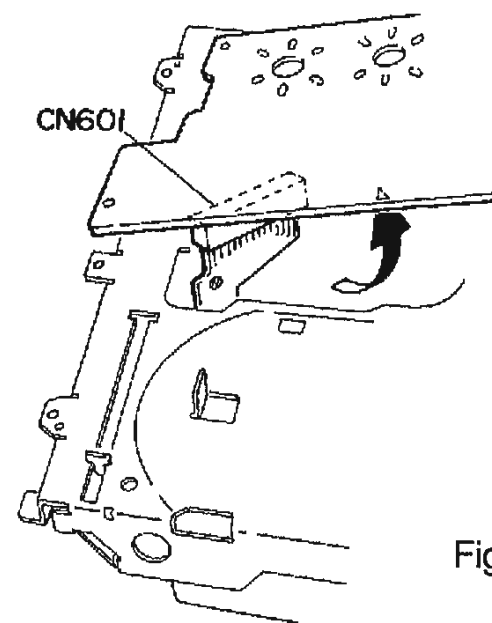

Fig.11
6. While raising the P.C. board, perform soldering to fill the position on the flexible P.C. board outgoing from the CD pickup unit (See Fig. 11).
7. After turning over the CD traverse mechanism, remove the flexible P.C. board from the connector CN601 on the CD traverse mechanism control & servo P.C. board (See Fig. 11).